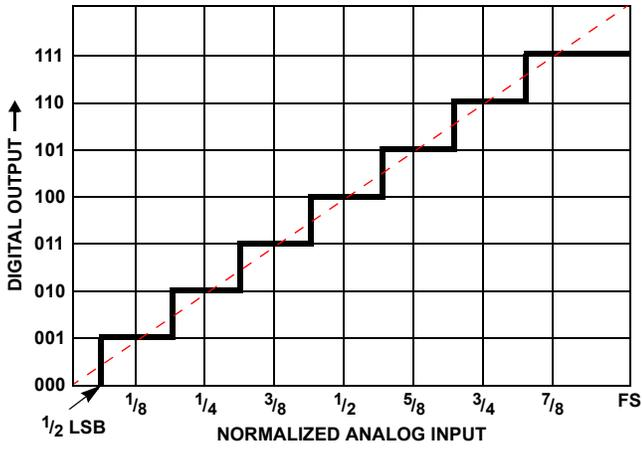

FIGURE 7. IDEAL A/D CONVERSION
**Quantization Error.** This is the fundamental error associated with dividing a continuous (analog) signal into a finite number of digital bits. A 10-bit converter, for example, can only identify the input voltage to 1 part in  $2^{10}$ , and there is an unavoidable output uncertainty of  $\pm 1/2$  LSB (Least Significant Bit). See Figure 7.